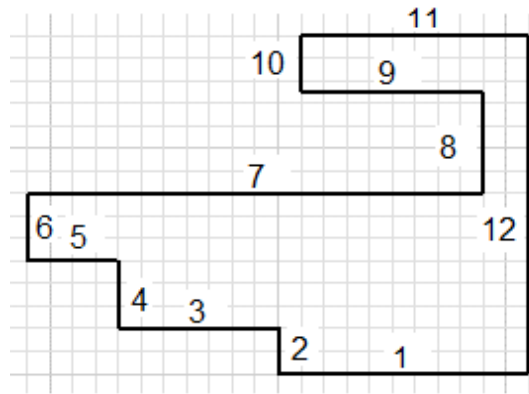

Figure 2-105 Sketch after drawing the lines
(Move the cursor toward left, enter **22** in the length input field, enter **90** in the angle input field of the Dynamic Input, and press **Enter**). Line 1 is drawn, as shown in Figure 2-105.
(Move the cursor upward in the graphics window. Next, enter **4** in the length input field, press **Tab**, enter **90** in the angle input field, and press **Enter**). Line 2 is drawn, as shown in Figure 2-105.
(Move the cursor toward left in the graphics window. Next, enter **14** in the length input field, press **Tab**, enter **90** in the angle input field in the Dynamic Input, and press **Enter**). Line 3 is drawn, refer to Figure 2-105.
2. Select the line 8 and then line 9, refer to Figure 2-105; a fillet is created between these lines and the radius of the fillet is displayed in the sketch.